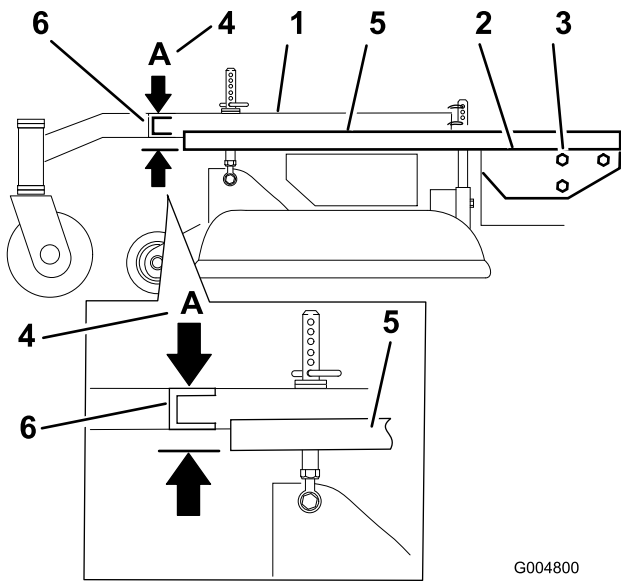

Figure 54
- Place a long straight edge on top of the engine deck as shown in Figure 54.
- At the carrier frame cross channel, measure the height at location **A** (Figure 54). This measurement must be 1-5/16 inch (33 mm), plus or minus a 1/4 inch (6 mm).
- Loosen the carrier frame mounting bolts on both sides of the machine (Figure 54).
- Align the carrier frame and engine deck to match 1-5/16 inch (33 mm), plus or minus a 1/4 inch (6 mm) at location **A** (Figure 54).